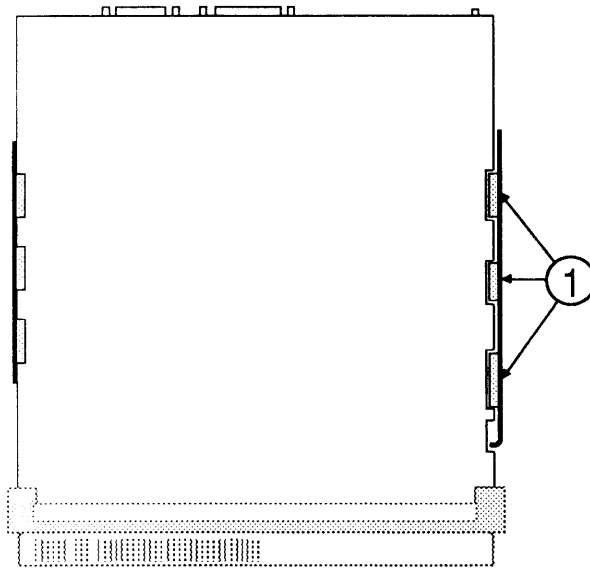

FIGURE 15
7. Holding the board by the edges, slide it up until the tabs on the right edge of the board exactly match the notches in the right metal bracket (Figure 15, #1).